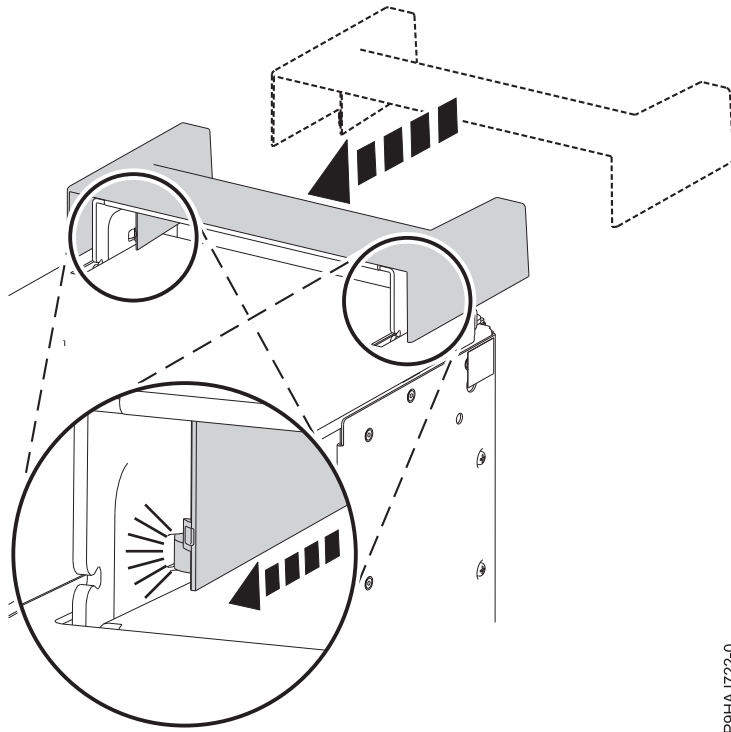

Figure 14. Securing the handle cover
1. Secure the handle cover to the internal RDX docking station (FC EUA3) by sliding it toward the rear of the system. See Figure 14.